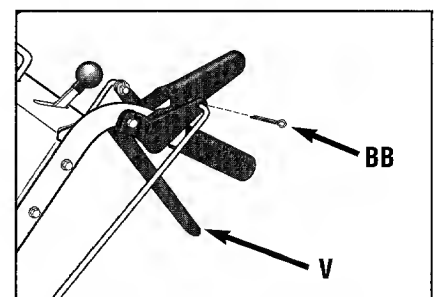

Figure 2-6A: Attach wheel drive control rod to control lever.
4. At upper end of control rod, secure angled end to Wheel Drive Control lever (V, Figure 2-6A), using a cotter pin (BB). Bend ends of cotter pin to secure.